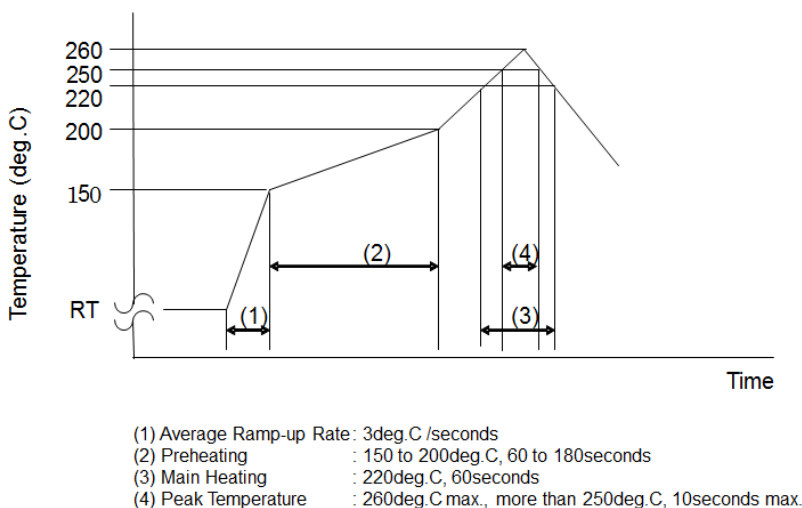

Figure 1
The solder reflow condition (infrared reflow/heat circulation reflow/hotplate reflow) shall be optimized and verified by the customer within the condition shown in Figure 1 to realize optimum solder ability. An excessive reflow condition can degrade the WLCSP MMICs that may result in device failure. The solder reflow must be limited to three (3) cycles maximum. The temperature profile during reflow soldering shall be controlled as shown in Figure 1.